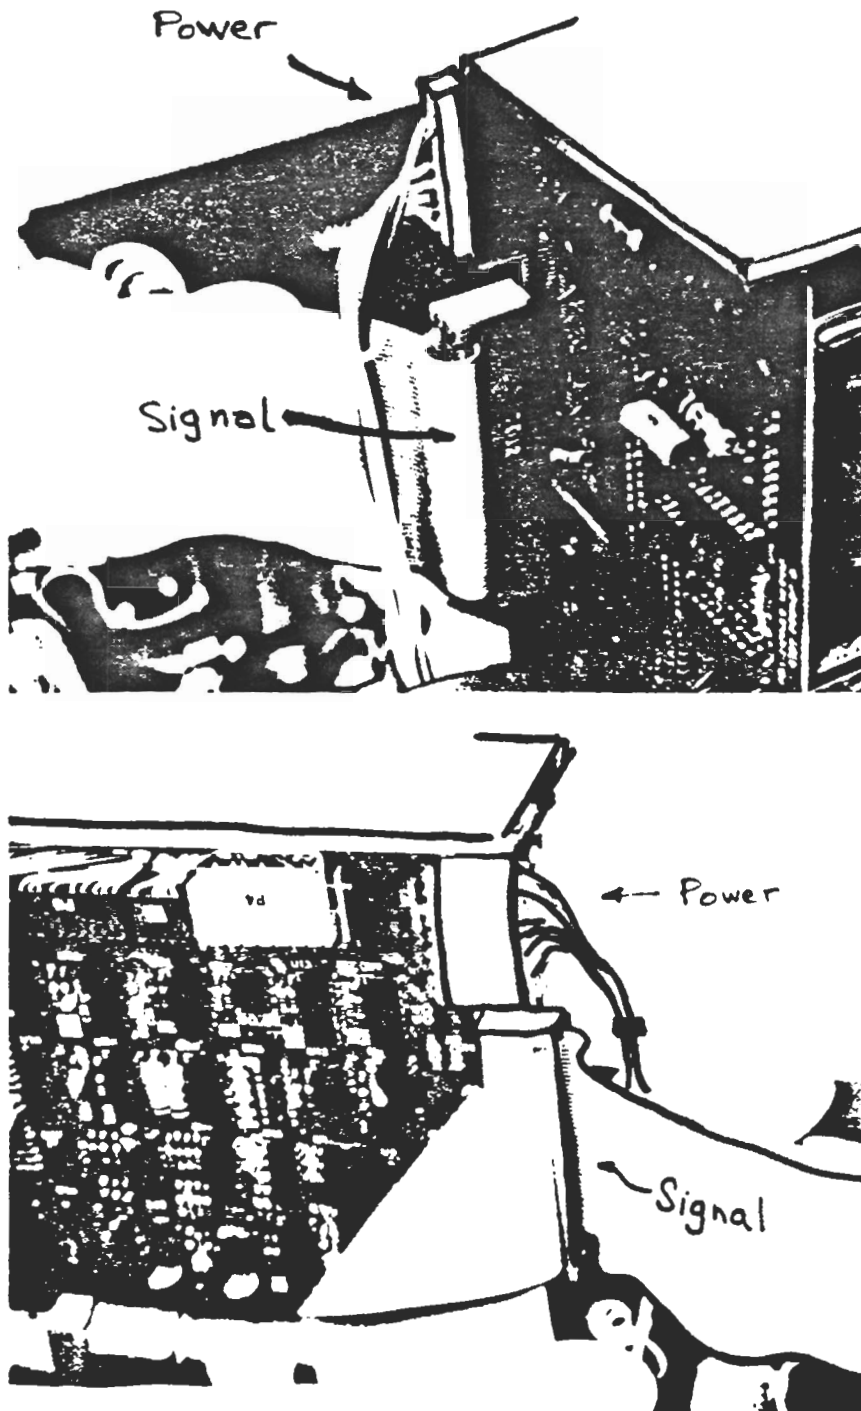

Fig. 3-22 Disk Drive DC Power and Signal Connectors
4. If C8 must be replaced, locate the power harness and the signal ribbon cable where they plug into the disk drive's printed circuit board (PCB). Refer to Figure 3-22.